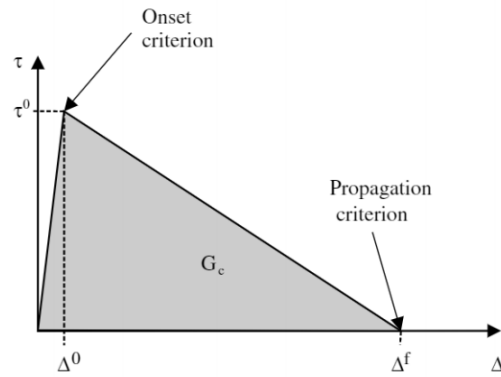

Fig. 3.14: **Bilinear Traction Separation Law** or the linear softening law [2].
- 'GcNormal'** Fracture toughness in opening mode G_{C_I} . See Fig. 3.14
- 'GcShear'** Fracture toughness in shear mode $G_{C_{sh}}$. See Fig. 3.14
- 'gFailureNormal'** Final or failure displacement gap in opening mode Δ_I^f . See Fig. 3.14
- 'gFailureShear'** Final or failure displacement gap in shear mode Δ_{sh}^f . See Fig. 3.14